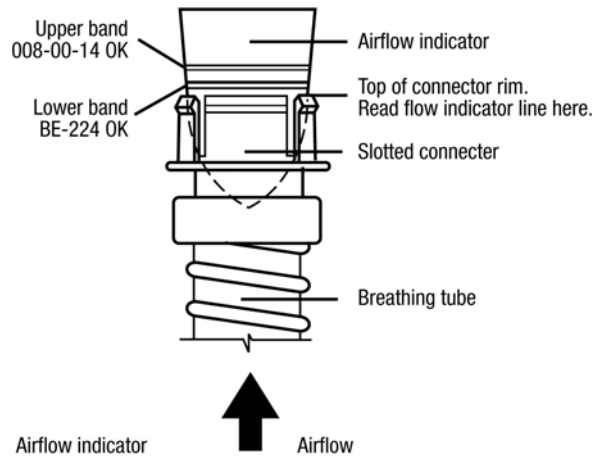

Fig. 11
5. Place the 021-14-00R01 air flow indicator (pointed end first) into the slotted connector. See Fig. 11
7. Switch the PAPR unit on. The indicator should “float” on the air coming out. (Fig. 11)